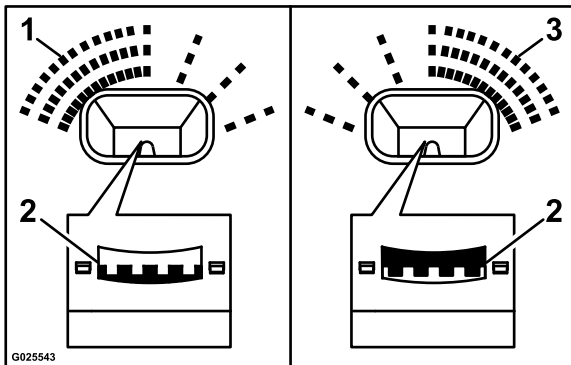
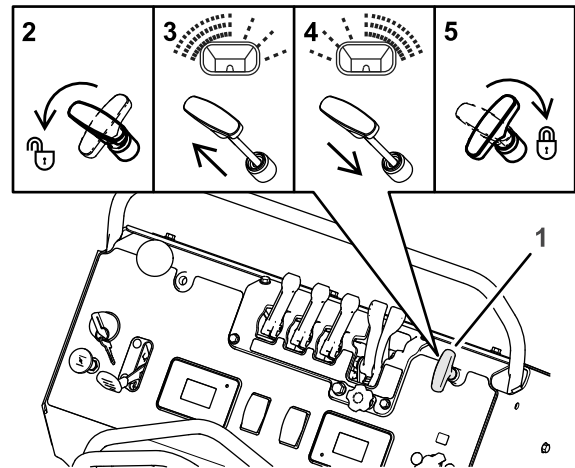

Figure 36
Figure 37
If the spreader casts material unequally side-to-side—too light/heavy to one side—(see Figure 36 and Figure 37), adjust the spreader-pattern.
1. Unlock the spreader-pattern control by turning the handle counterclockwise 90° as shown in 2 of Figure 37.
- If the material is broadcast too heavy at the left side of the machine, pull the spreader-pattern control up slightly; refer to 3 of Figure 37.
- If the material is broadcast too heavy at the right side of the machine, push the spreader-pattern control down slightly; refer to 4 of Figure 37.
3. Lock the spreader-pattern control by turning the handle clockwise 90°; refer to 5 of Figure 37.